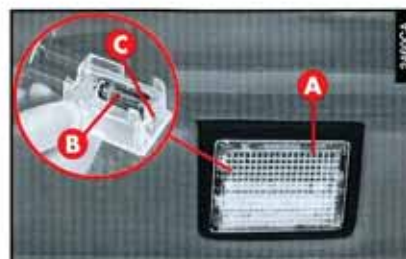

fig. 29
- Remove the transparent cover (**A-fig. 29**) complete with the bulb using a flat screwdriver.
- Change the bulb (**B-fig. 29**) pulling outwards, making sure that the new bulb is correctly positioned between the contacts.
- Refit the transparent cover checking that the catch clicks (**C-fig. 29**).